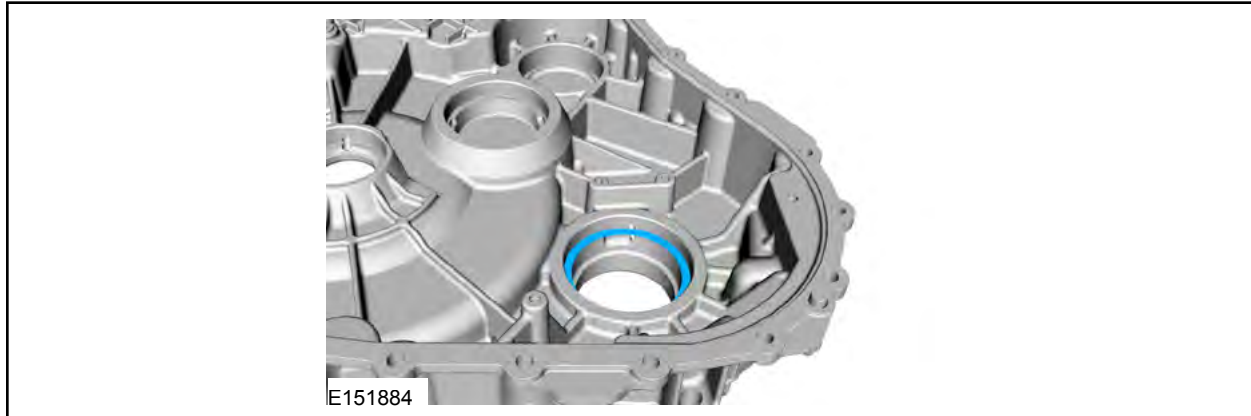

FIGURE 13
10. Remove and discard the differential preload shim. See Figure 13.